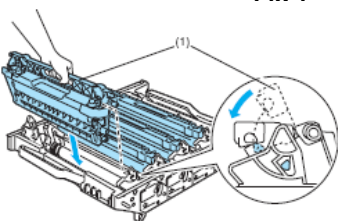

Fig 2
3. Lift out the appropriate toner (Fig 2)